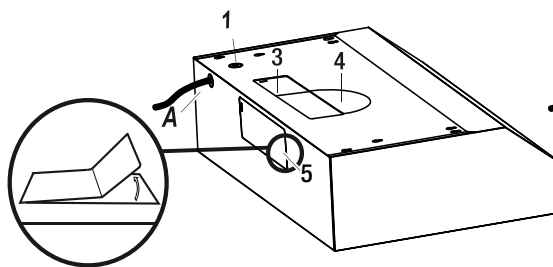

Fig. 10
- Use the power supply cable to connect the range hood (A) directly to the junction box or circuit breaker box. Use a flexible, armoured, or nonmetallic sheathed copper cable only. Never use an extension cord or adapter plug.
- Connect a UL-listed or CSA-approved conduit connector to each end of the power supply cable (at the range hood and at the junction box). Connect the 2 colored wires from the range hood (A) to the corresponding wires from the electrical source: black to black (live), white to white (neutral), and the house grounding wire to the green ground screw. Use either the top hole (1) or the back hole (2) of the range hood depending on your installation type as shown in Fig. 10.
- Choose the venting hole to remove for your installation type. Use the top holes (3 & 4) for a top venting installation and the back hole (5) for a back venting installation. See Installing the damper section for more details.
- Carefully remove the cover (3, 4 or 5) of the appropriate venting hole using a flat head screwdriver or needle nose pliers (refer Fig. 10). Be careful not to leave any debris inside the range hood (A).